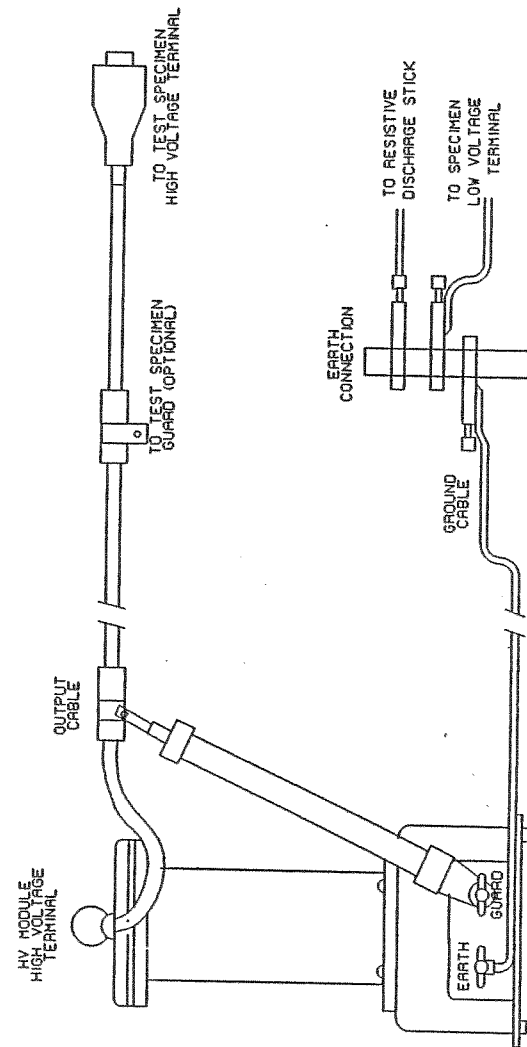
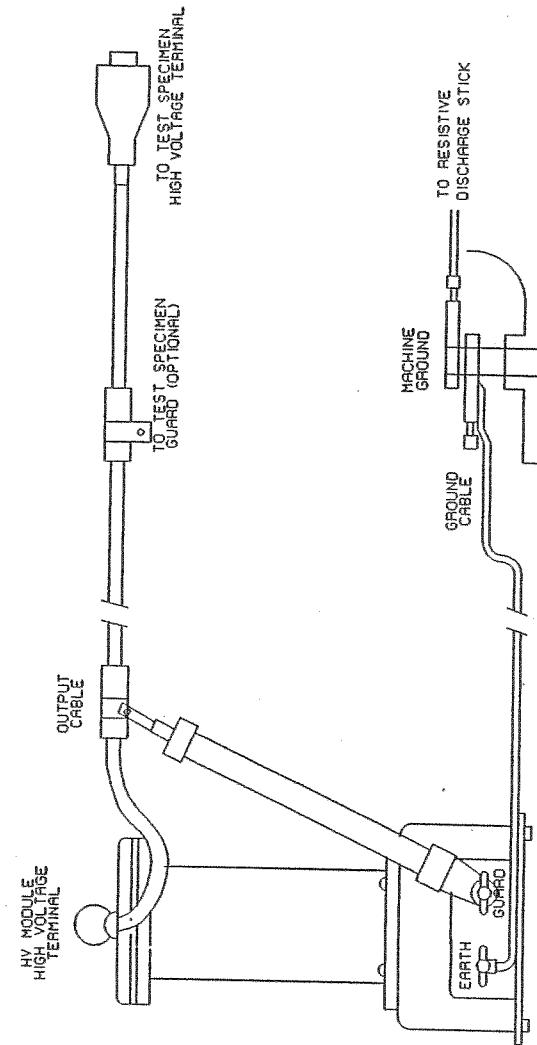

FIGURE 7: CONNECTION DIAGRAM FOR UNGROUNDED TEST SPECIMENS (E.G., SPOOLS OF CABLE).
FIGURE 8: CONNECTION DIAGRAM FOR GROUNDED SPECIMENS (E.G., TRANSFORMERS AND LARGE MACHINERY).
4. If the test specimen is ungrounded, connect the low-voltage terminal of the test specimen to the ground connection as shown in Figure 7. The interconnection diagram for grounded specimens is shown in Figure 8.
7. Connect one side of the carrying handle to the HV module guard terminal. Connect the other end to the guard of the high-voltage output cable, as shown in Figures 7 and 8. This connection is essential because it provides proper positioning of the high-voltage output cable and prevents excessive leakage.